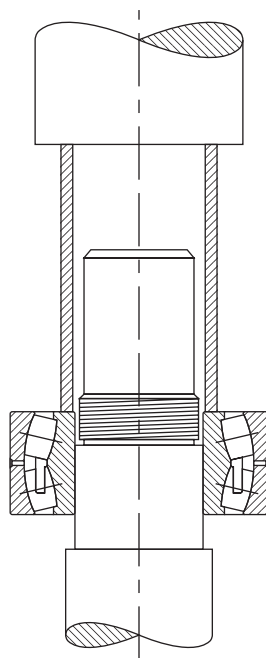

Fig. 17. Arbor press method.
- An alternate method of mounting, generally used only on smaller size bearings, is to press the bearing onto the shaft or into the housing. This can be done by using an arbor press and a mounting tube as shown in fig. 17.